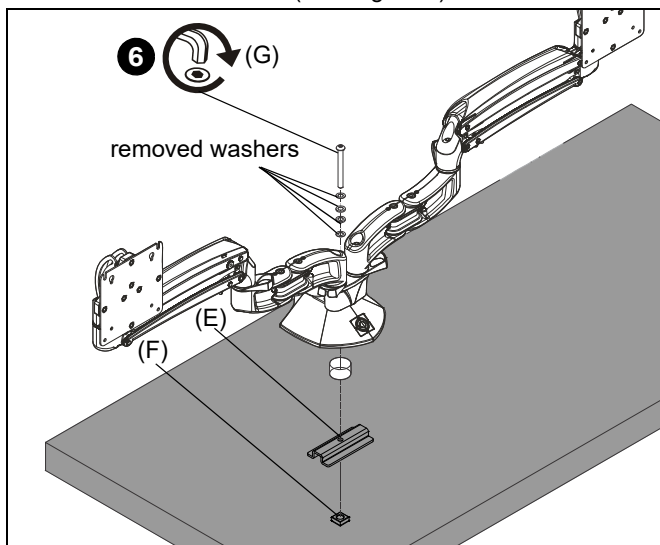

Figure 6
5. Place mount on desk over grommet hole. (See Figure 6)
6. Use 5/16-18 x 6" button head cap screw (G), removed washers, clamp bracket (E) and 5/16-18" square nut (F) to secure mount to desk. (See Figure 6)